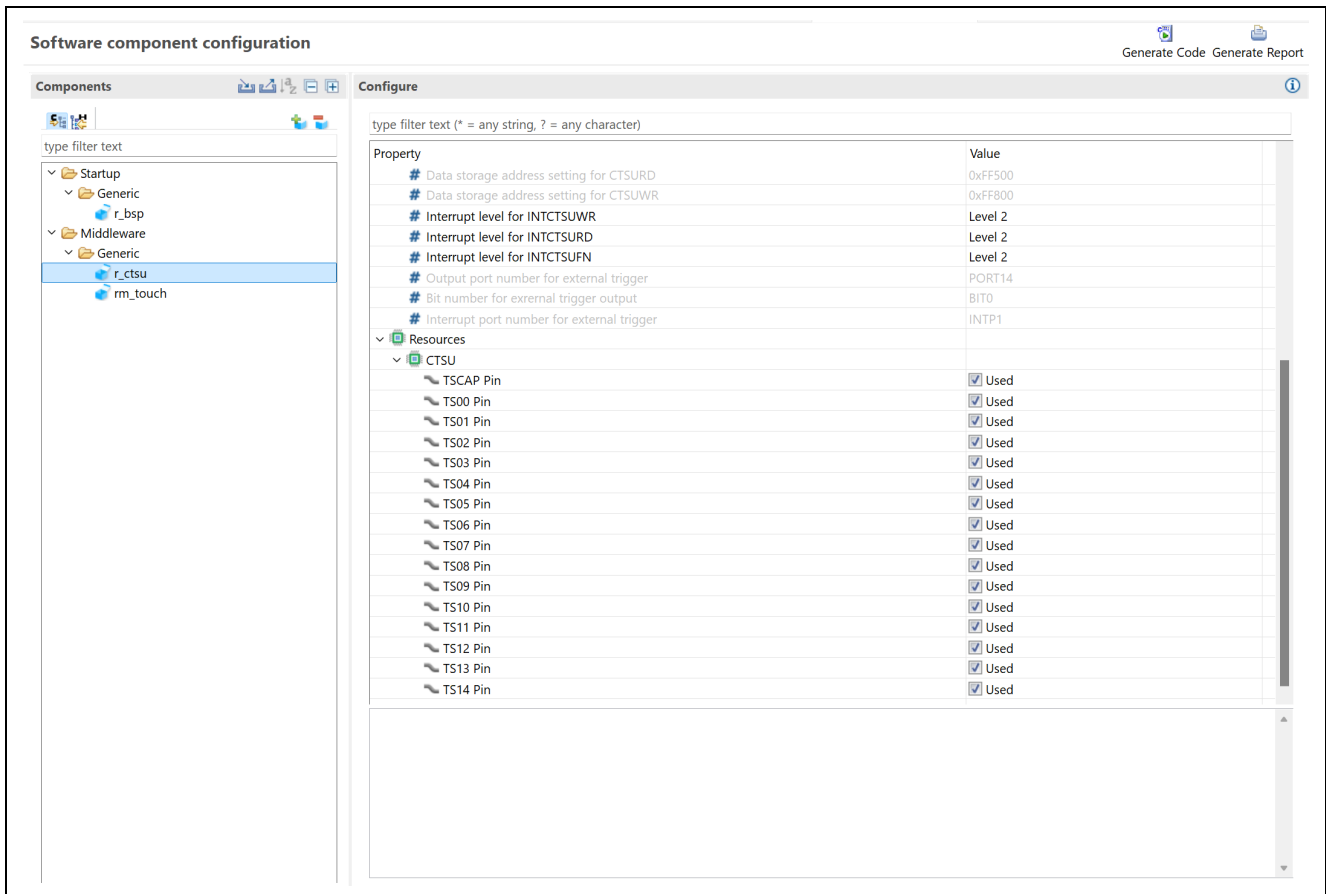

Figure 6-16 Smart Configurator (RL78)
2. As shown in Figure 6-16, add the Touch middleware and the CTSU driver on the Smart Configurator.